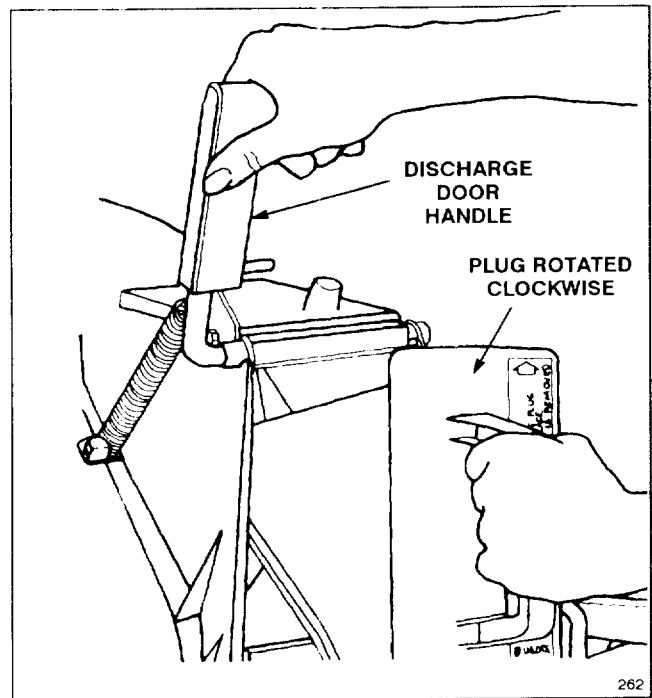

Figure 4
- Open the discharge door by pulling forward on the handle and moving it rearwards (Fig. 4). Hold the discharge door handle to prevent the spring-loaded door from closing while inserting the plug.
- Since the plug is slightly wider than the discharge tunnel opening, rotate the plug clockwise slightly while inserting it (Fig. 4). Make sure the arrow on the plug decal is pointing upwards.